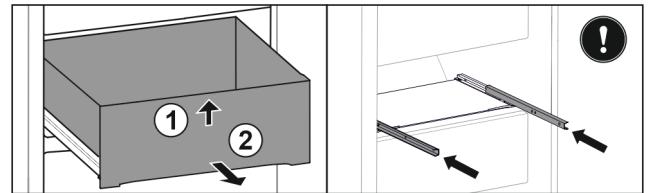

Fig. 142
- ▶ Lift up drawer at the front. Fig. 142 (1)
- ▶ Remove drawer to the front. Fig. 142 (2)